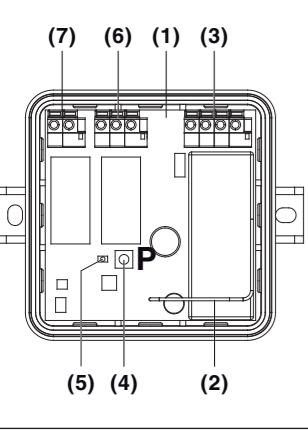

Fig. 1
2.1 Receiver BDE325-2 / BDE325-2A (fig. 1)
3.1 Connecting the receiver (fig. 1, 2 and 3)
2.1 Mottagare BDE325-2 / BDE325-2A (fig. 1)
3.1 Mottagarens anslutning (fig 1, 2 och 3)
2.1 Mottager BDE325-2 / BDE325-2A (fig. 1)